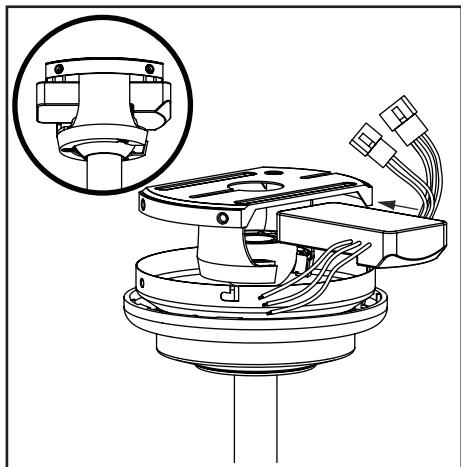

Figure 11
2. Insert the narrow end of the receiver (as shown, flat side toward ceiling) into the slide-on mounting bracket until it rests on top of the ball/downrod assembly. (Figure 11)